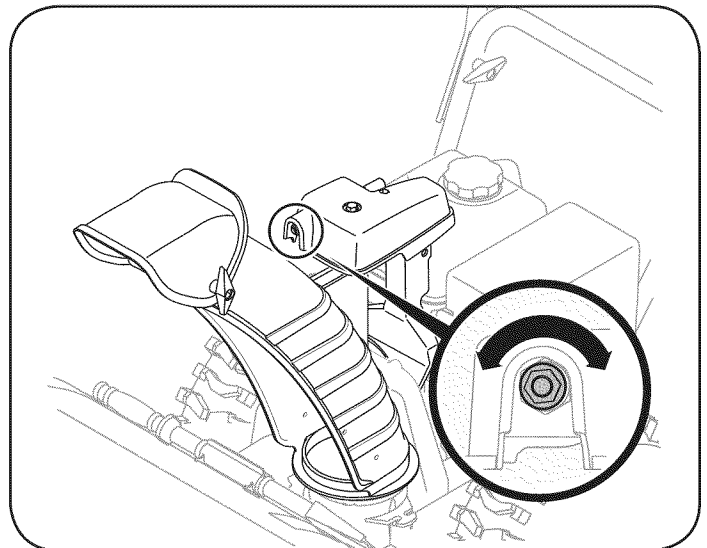

Figure 23
1. To increase the preload, tighten the hex nut clockwise in  $\frac{1}{4}$  turn intervals. See Figure 23.